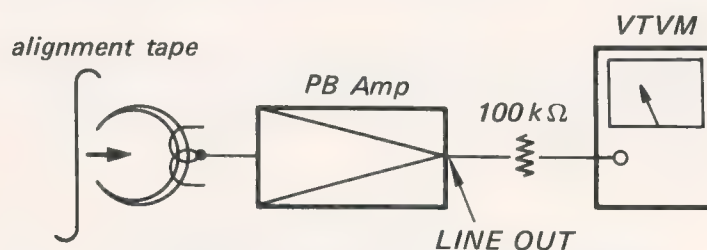

Fig. 3-3-1. Head adjustment setup
- (1) Thread the SONY alignment tape (J-19-F₂) onto the unit.
- (2) Set the tape speed to 7½ ips (19 cm/s).
- (3) Make the connections as shown in Fig. 3-3-1.
- (4) Loosen the azimuth adjusting screws of A block (or B block) equally.
- (5) Play back the third tone (10 kHz) of the alignment tape. Adjust the azimuth adjusting screws (⊖ SC 2×3) of B block (or A block) for maximum reading on the VTVM at both channels by tightening or loosening equally. Tighten the screws of A block (or B block) after the correct azimuth angle has been obtained.
- (6) Apply lock paint to the screws.